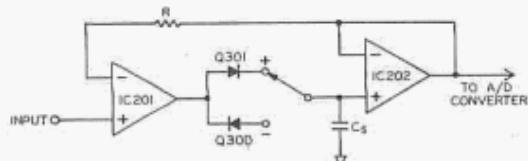

FIGURE 5-4. SIMPLIFIED BLOCK DIAGRAM,
5.2.15 A simplified block diagram of the Differential Peak Hold circuit is shown in Figure 5-4. The "Peak Hold" circuitry consists of a storage capacitor, two diodes, and two isolation amplifiers connected in a unity gain configuration. Initially, the C_s capacitor is discharged. When the "Peak Hold" pushbutton is depressed, the C_s capacitor is charged to either the most positive or negative potential of the input signal via IC 201. The polarity is determined through either diode Q300 or Q301 by the selection of the " \pm " switch position. Once the most extreme potential is removed, the diode is reverse biased and the potential is stored in the C_s capacitor. The decay rate of the stored potential is about one count per second.